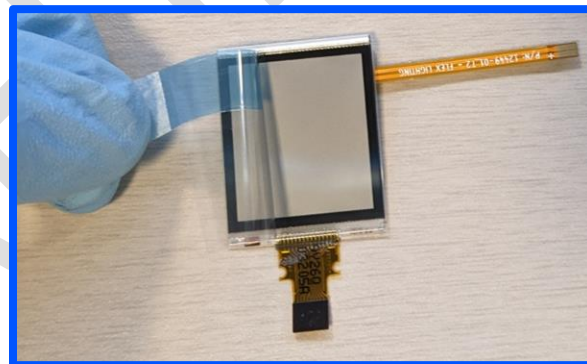

Figure 12. Removal of protective liner using speedy tab.
- Remove the protective film slowly, using the speedy tab, pulling at a $\sim 30^\circ$ angle from display surface. Remove under an ESD control device, like an ion blower, in a $>50\%$ RH environment to reduce the risk of static charge. Refer to Figure 12.